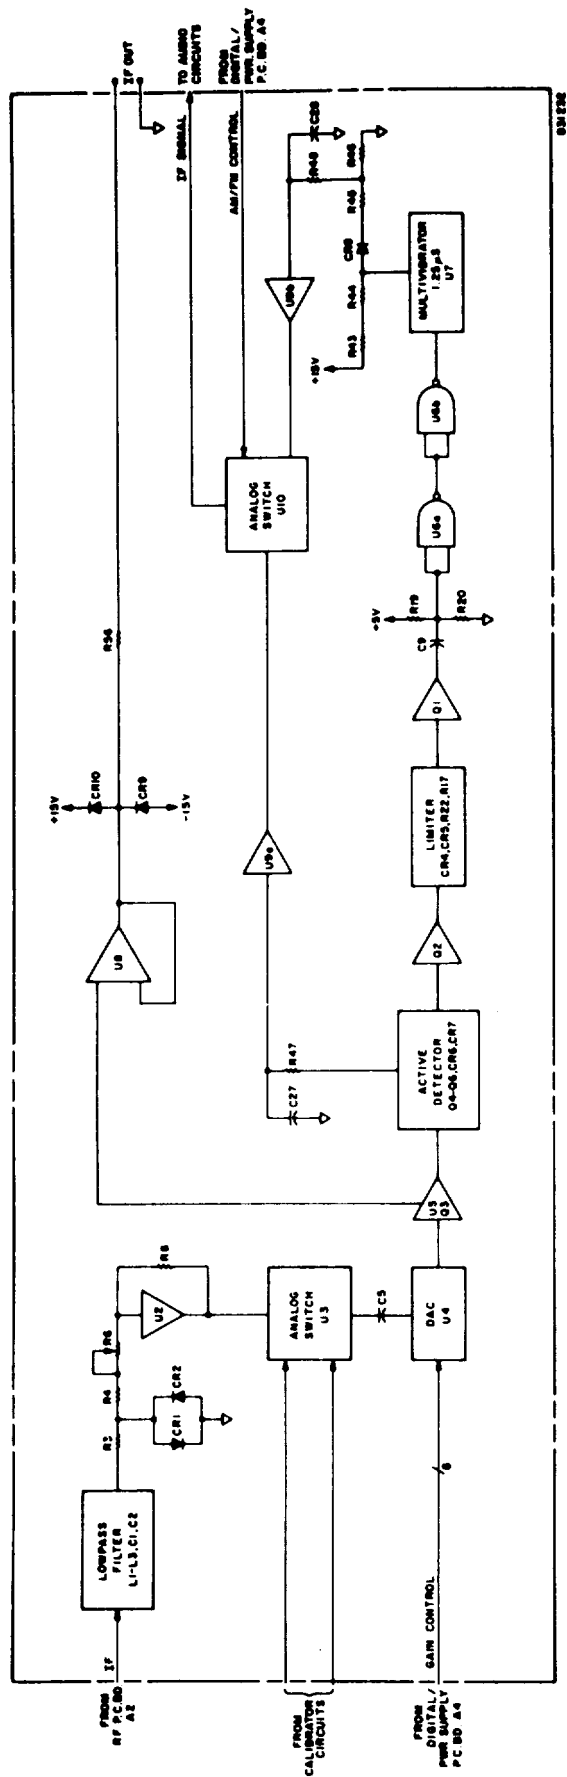

Figure 3-4. I.F. Circuits: Detailed Block Diagram
- (6) The sampling pulses are generated by the step-recovery diode CR3, amplifier Q1, and transformer T1. Initially, diode CR3 is forward biased from the +5 volt supply through R5. U1a generates a narrow pulse from the output of the counter. This pulse, amplified by Q1, drives the step-recovery diode into reverse conduction; however, CR3 does not "open" until all of its stored charge is depleted. At that time the diode recovers and produces a large narrow pulse, which is coupled to the sampling bridge through T2, a balun transformer. The output of T2 is two nearly equal opposite-polarity pulses. If the two pulses were exactly equal and opposite, they would cancel one another at the input and output of the sampling bridge. Since such equality is never the case, however, R14 is adjusted to null the bridge-input signal--and thereby the signal fed out of the RF IN connector.
- (7) Frequency acquisition occurs in the following manner: If no carrier is present at the input (RF IN), the discriminator level indicates that the frequency is high. The integrator ramps toward the negative supply rail until it has exceeded 11 volts. At that time the integrator is reset to 0 volts, the integrator attenuator is bypassed, and the count-modulus of the band counter is changed. This process continues until a carrier signal is applied to the RF IN connector.
- (8) When a carrier is applied, an if. signal will be produced at a frequency that is between zero and one-half of the sampling rate. This signal is hard-limited, then applied to a discriminator which, in turn, causes the integrator to move toward one or the other of the supply rails--depending on whether the i. f. is high or is low. If a valid 400 khz i.f. is produced the integrator stops, and the by-pass of the integrator attenuator is removed. If no valid if. occurs, the integrator output. will eventually exceed either +11 or -11 volts. Then the integrator will be reset, and the band-counter modulus will be either increases or decreased. In this way, all possible input frequencies can be made to produce a valid if.
- (9) The capture performance of the system is determined principally by the limiter's gain and the bandwidth of the sampler. Weaker signals at the r.f. input (non-harmonically related to the signal of interest) will be suppressed, since the largest signal present will drive the limiter to a low-gain state. These weaker signals will appear as f.m. sidebands at the output of the limiter.
b. I.F. Circuits. The if. circuits recover the a.m. and f.m. signals from the frequency-shifted input signal. These circuits also provide a sample if. signal to the front-panel IF OUT connector; in addition, for a.m. measurements, they provide a d.c. signal proportional to the if. level. (Refer to Figure 3-4, a detailed block diagram of the if. circuits.)
- (1) The 400 kHz if. signal from the r.f. circuits is connected to amplifier U2 through a low-pass filter that consists of inductors L1 through L3, capacitors C1-C2, and resistors R3, R5 and R6. Variable resistor R5 reduces the filter's amplitude-response variations, which are due to component tolerances. It is adjusted so as to give minimum a.m. indication when an F.m. signal is applied. Amplifier U2 has a closed-loop gain of four (approximately), as determined by